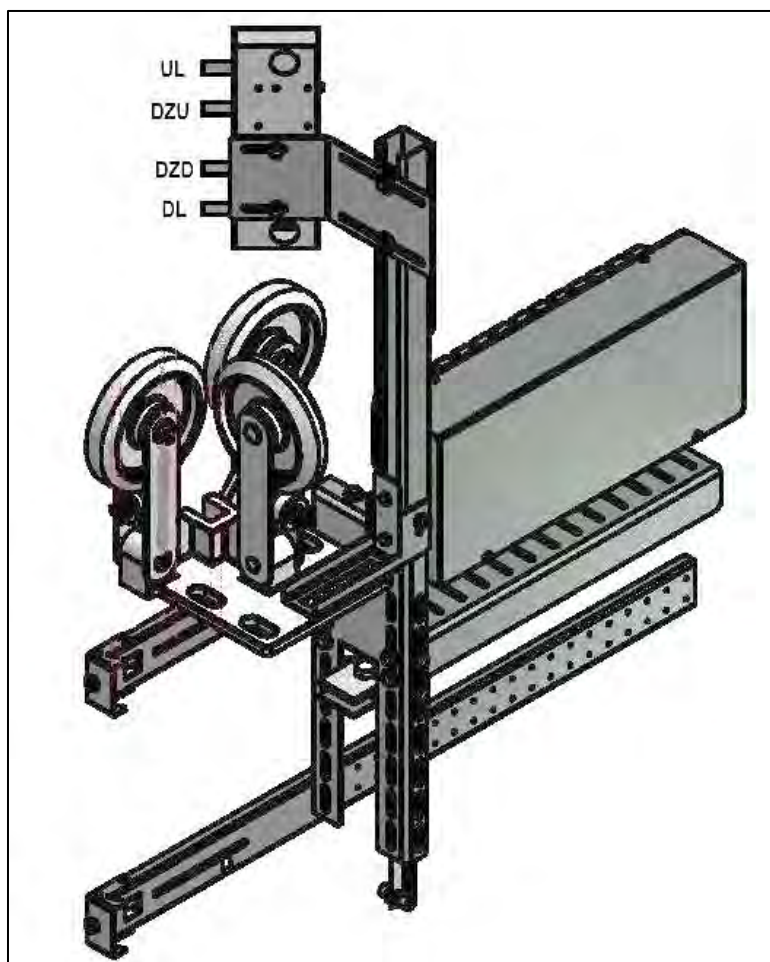

Figure 2-25: Tapeless Selector 7 Leveling Sensor Box
- The leveling sensor box includes sensors for inputs signals UL, DZU, DZD, and DL. See Figure 2-25.